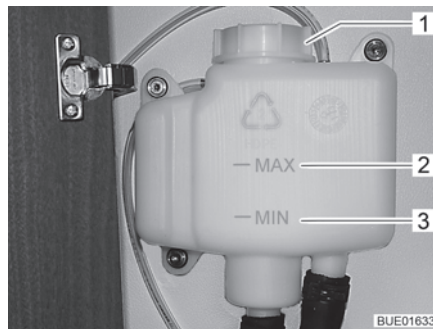

Fig. 184 Compensator reservoir without panel
- Check if the fluid level is between the marks "MIN" (Fig. 184,3) and "MAX" (Fig. 184,2) on the compensator reservoir (Fig. 184).
- Open the rotary lid (Fig. 184,1) on the compensator reservoir.